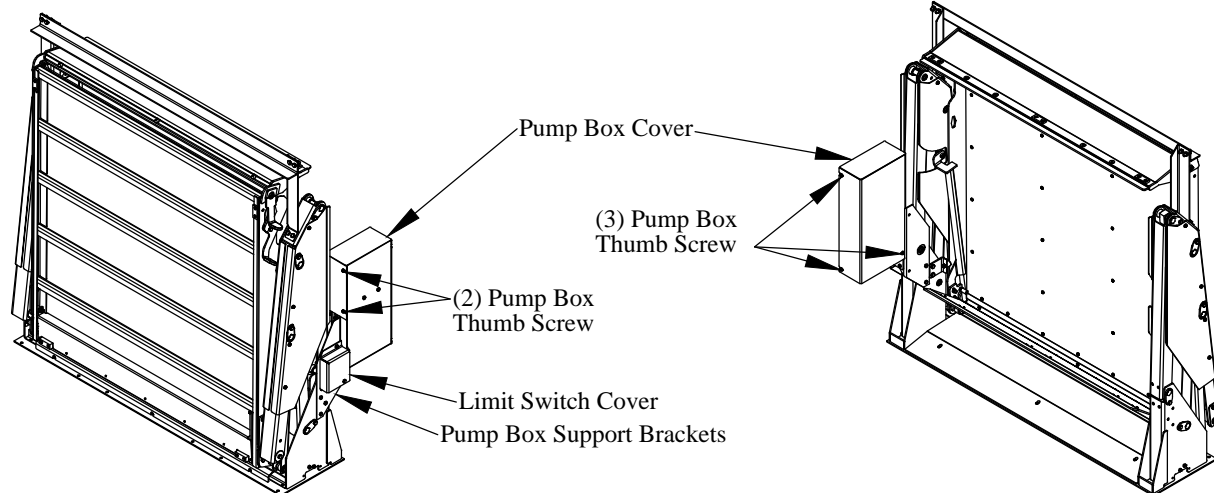

Figure 4: Pump Box.
1. **Remove** the pump box cover by removing five (5) thumb screws (Figure 4).
2. **Remove** and **Save** limit switch cover (Figure 4).
15. Remove and **Save** four (4) 5/16" bolts with lock washers and nuts attaching pump box to support brackets (Figure 4).
25. **Replace** limit switch cover (Figure 4).